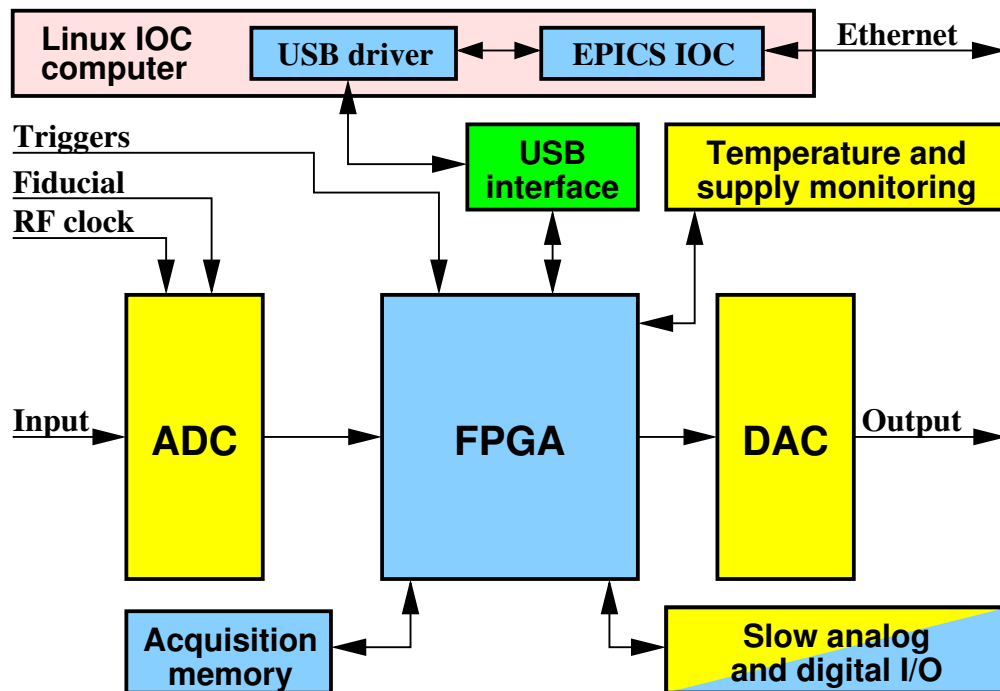

Figure 1: iGp12-1332F block diagram
A top-level block diagram of the iGp12-1332F system is shown in Figure 1. The main signal processing chain consists of a high-speed 12-bit **analog-to-digital converter (ADC)**, a **field programmable gate array (FPGA)**, and a high-speed 12-bit **DAC**, all driven by the **radio frequency (RF)** clock. In addition to performing real-time control computations, the **FPGA** interfaces to a number of on-board devices, such as high-speed data acquisition memory (**static random access memory (SRAM)**), low-speed analog and digital **input/output (I/O)**, as well as temperature and supply voltage monitors. In turn, the **FPGA** uses an internal **universal serial bus (USB)** connection to communicate to an embedded **input-output controller (IOC)** computer housed in the same chassis. The **IOC** runs the **Linux** operating system and is connected to the overall control system via the **Ethernet**.